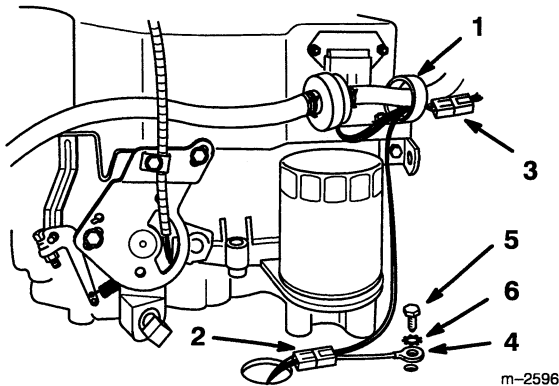

Figure 6
1. Route regulator wires through J-clip on engine, and plug in clutch and engine in-line wire connectors (Fig. 6).
2. Secure ground wire to one of three holes in frame, at rear of engine, with self-tapping screw and star washer (Fig. 6).
3. Secure wire harness and throttle to upper handle with cable tie (Fig. 6)